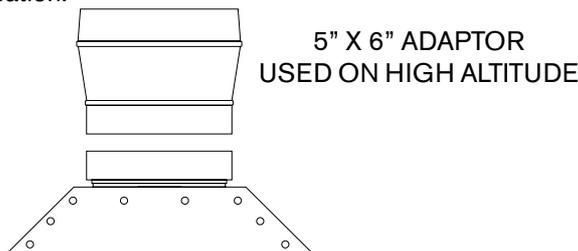

Fig. 4 - Vent Adaptor for High Altitude Installations
**WARNING: Do not reduce the vent pipe size. See Fig. 4 for high altitude installations**
**VERTICAL GAS VENT:** A 5 inch diameter gas vent constructed of double wall Type B gas vent is recommended. 6 inch is required in elevations greater than 2000 feet, see Fig. 4. Any gas vent section that is greater than 45 degrees from the vertical is considered horizontal. Horizontal sections must slope upwards at least 1/4 inch for every foot of its horizontal length and be properly supported. Keep the horizontal section short and avoid too many elbows. The minimum vertical gas vent height allowed is 6 feet; horizontal vent connectors and elbows are not to be considered in the total gas vent height. All gas vent sections must be secured to each other with sheet metal screws and be properly supported.
**MASONRY CHIMNEY:** Masonry chimneys shall be built and installed in accordance with NFPS 211 or local codes. A minimum 5" diameter gas vent pipe (metal double wall Type B), or an approved clay flue liner or a listed chimney lining system must be used when venting into a naturally drafting, internal masonry chimney. 6 inch is required in elevations greater than 2000 feet, see Fig. 4. Local codes may require the use of both gas vent *and* an approved lining system when venting into a masonry chimney. The Commonwealth of Massachusetts requires the use of a listed liner. Lining systems include approved clay flue lining, a listed chimney lining system or other approved material that will resist corrosion, erosion, softening, or cracking from exhaust flue gases at temperatures up to 1800 degrees F. The lining system must be listed for use with naturally drafting, draft hood equipped gas appliances. Follow local codes and refer to NFGC 54 and NFPA 58.
The vent connection for the 425 HN is 5 inches. However, for installations at high altitude (over 2000 feet above sea level) a six inch vent is required. A 5" by 6" vent adaptor must be affixed to the flue collar of the 425 HN with at least two screws. See fig. 4.